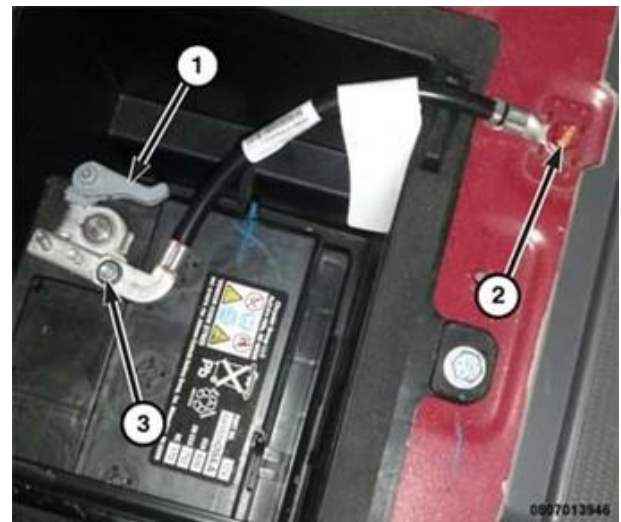

Figure 4 – Battery
4. Loosen the battery negative cable terminal clamp (1) and remove the negative cable from the terminal (Figure 4).